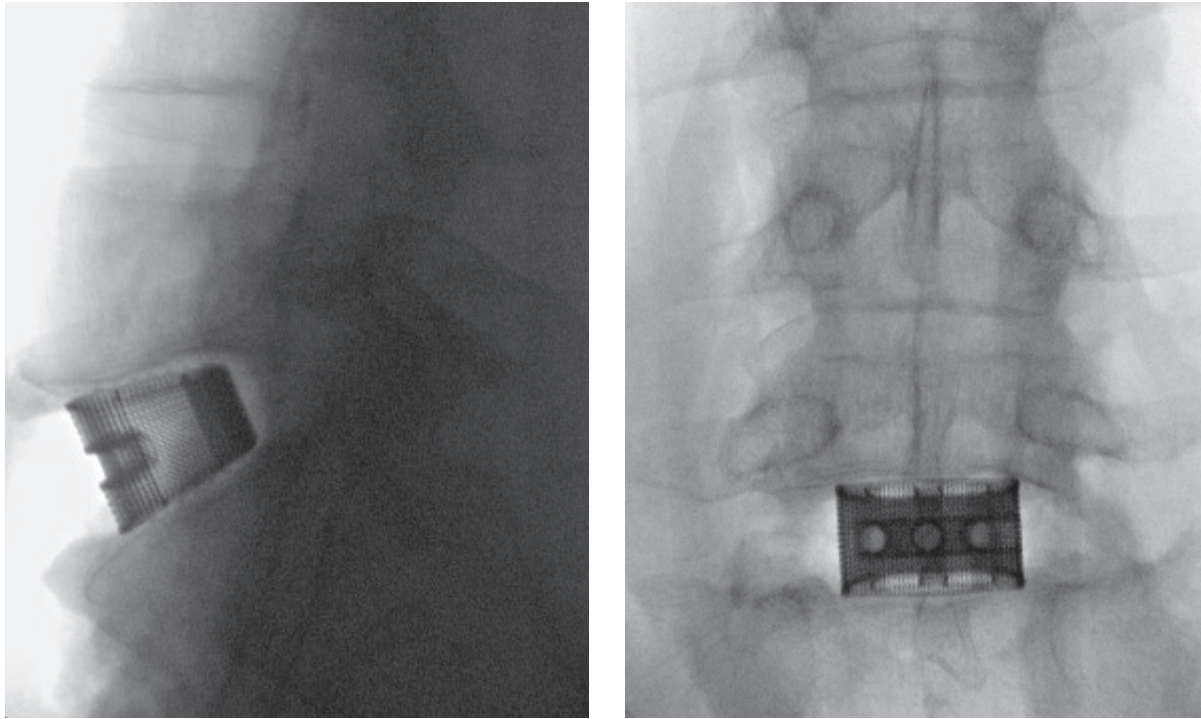

Figure 8
- Radiographically confirm the position and placement of the Implant. Fine tuning of implant position is optional by using the tamp (300H0002) (Figure 8).